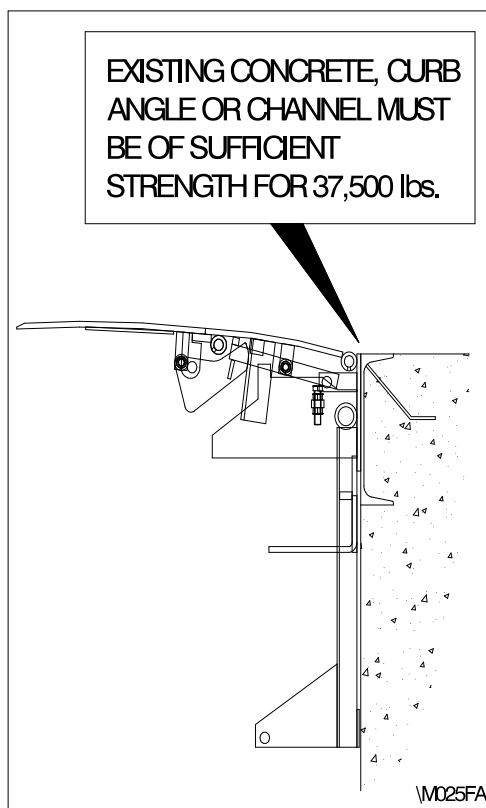

Figure 2: Load Specification
3. Assure concrete, curb angle or channel has sufficient strength to meet the draw pull forces which will be applied. (See Figure 2: Load Specification on page 4)